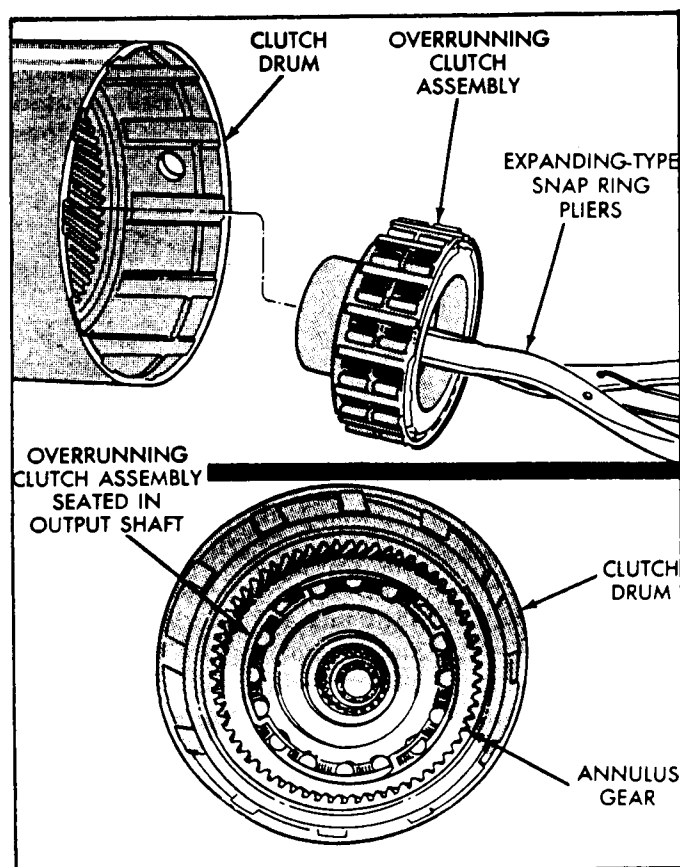

Figure 8
10. Install overrunning clutch in output shaft, using snap ring pliers, with a counterclockwise twisting motion, as shown in Figure 8.